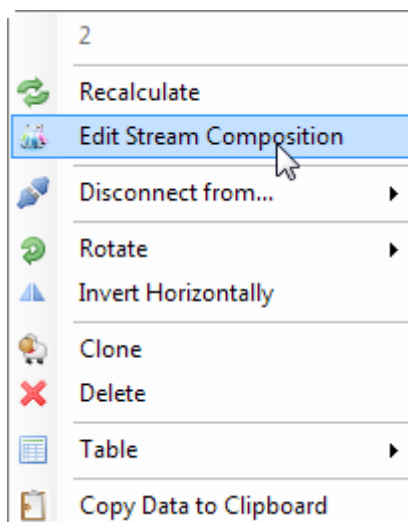

Figure 14: Selected object context menu.
- Through the context menu activated with a right mouse button click over the object (Figure 14);
**Removing objects from the flowsheet** The selected object can be removed from the flowsheet by pressing the DEL keyboard button or by using the context menu - "Delete" item (Figure 14).